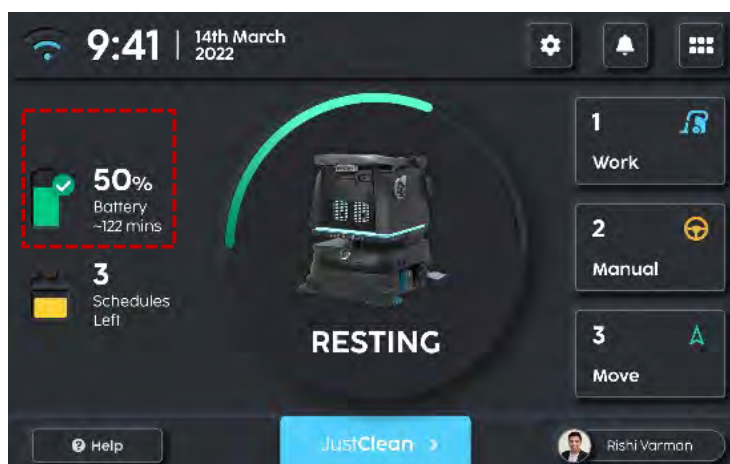

Fig. 1
1. Refer to the ‘Home’ page on the screen for the robot to check the battery level (Fig. 1)